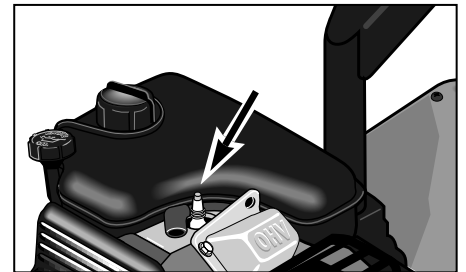

Fig. 5-10
The spark plug (see Fig. 5-10) must be in good condition for proper engine operation. Remove and inspect the plug every one-hundred (100) operating hours or annually, whichever comes first.